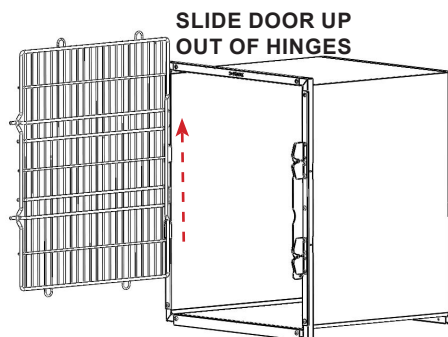

FIGURE 2.2 - Door Removal
**STEP 2:** Lift the door upward, sliding the bushings out of the hinge assemblies. Set away from the assembly area. See FIGURE 2.2